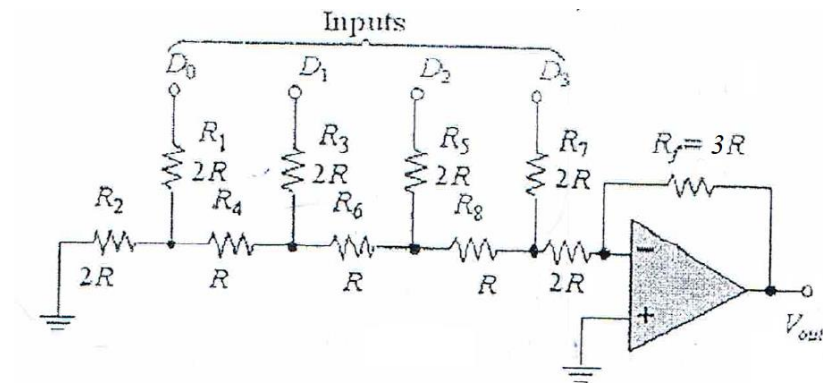

Figure 5.2
The R/2R ladder requires only two values of resistors, shown in figure 5.2. By calculating a Thevenin equivalent circuit for each input, you can show that the output is proportional to the binary weight of inputs that are HIGH.
4. Repeat the above steps for the DAC circuit of Figure 5.2 choosing R as $4.7k\Omega$, $2R$ as $10k\Omega$, and $3R$ as $15k\Omega$.